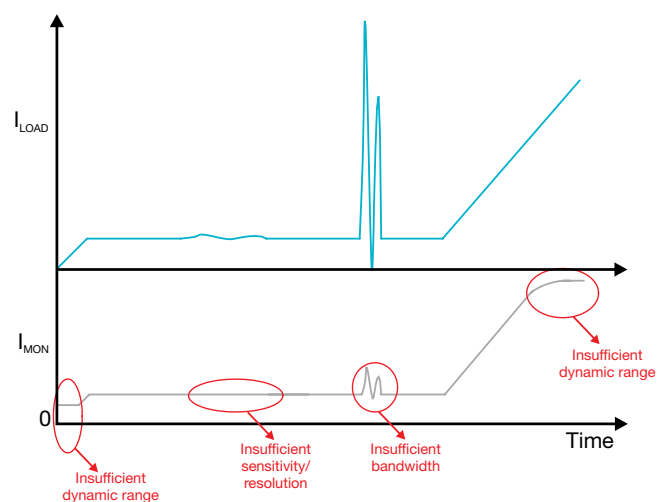

Figure 9. System impact of current-monitoring performance specifications.
- Bandwidth is a measure of the fastest change in current that the monitoring circuit can sense. Any signals within the circuit bandwidth will be reproduced faithfully, while signals outside the bandwidth will be attenuated significantly, leading to erroneous measurements. The bandwidth also determines the circuit's ability to detect instantaneous changes in the current such as load transients, as shown in **Figure 9**.